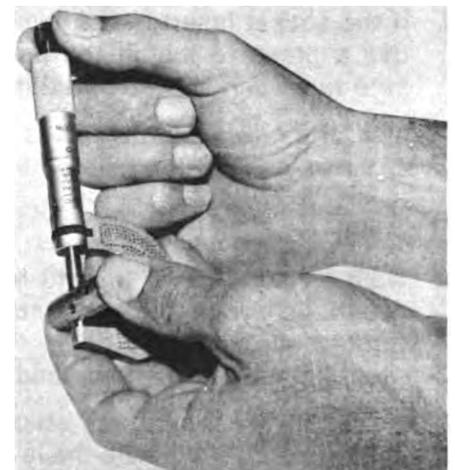

Fig. 4-12 (N10416). Measure The O.D. Of The Roller Pin.
9. Use micrometers to measure the outside diameter of the roller pins, Fig. 4-12. See Table 1 for dimensions of the roller pins.